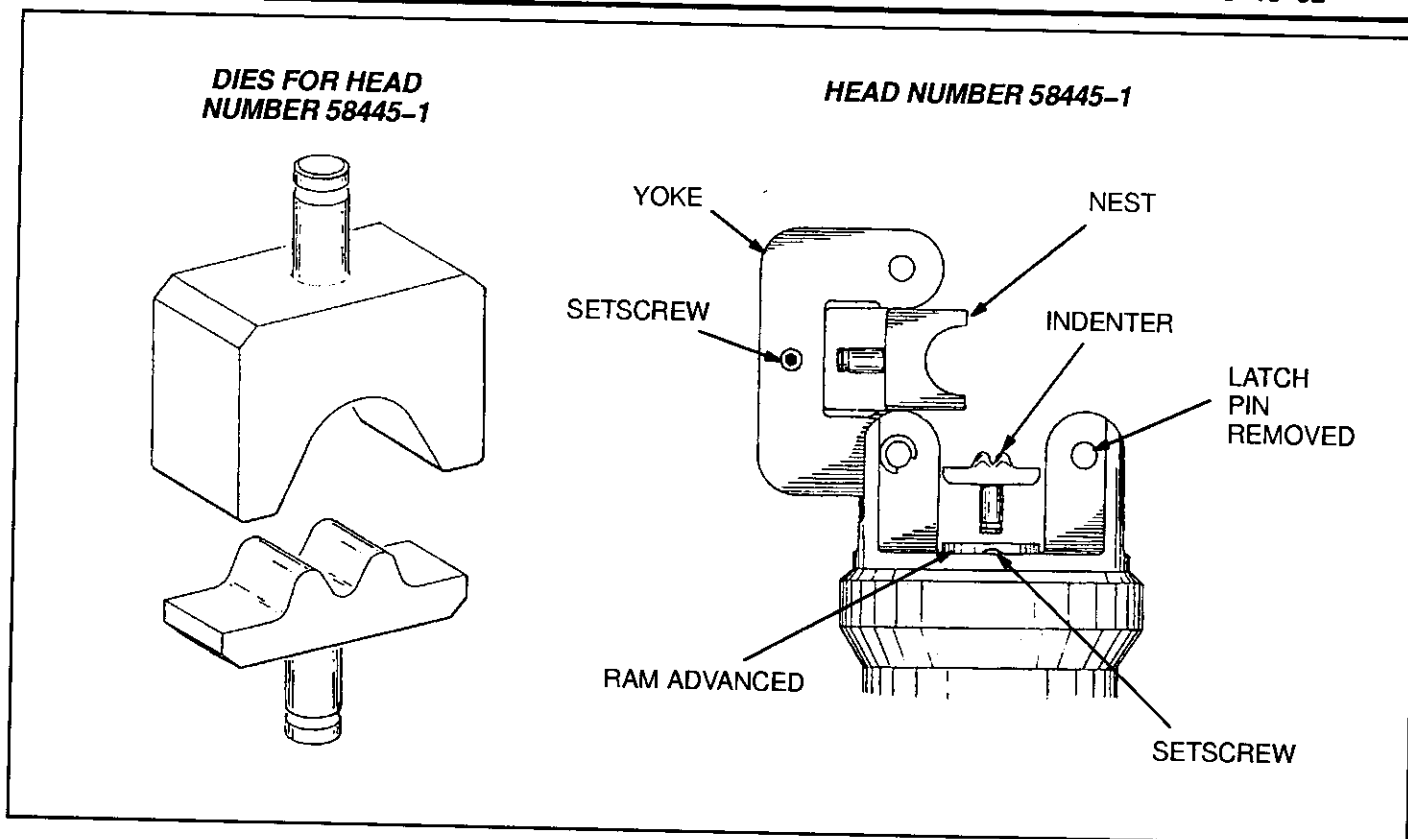

Fig. 1
This Instruction Sheet (IS) supersedes IS 1598 and provides instruction on application and a maintenance and inspection procedure for dies used to crimp SOLISTRAND standard terminals, butt splices, and parallel splices. These dies are used to crimp product on solid or stranded copper wire sizes 250-600 MCM. The dies are used in Hydraulic Head 58445-1. See Figure 1. Read these instructions and all applicable references before inserting any die assemblies and crimping any terminals. See Figure 2.
3. Insert nest into yoke as shown in Figure 1. Tighten setscrew.